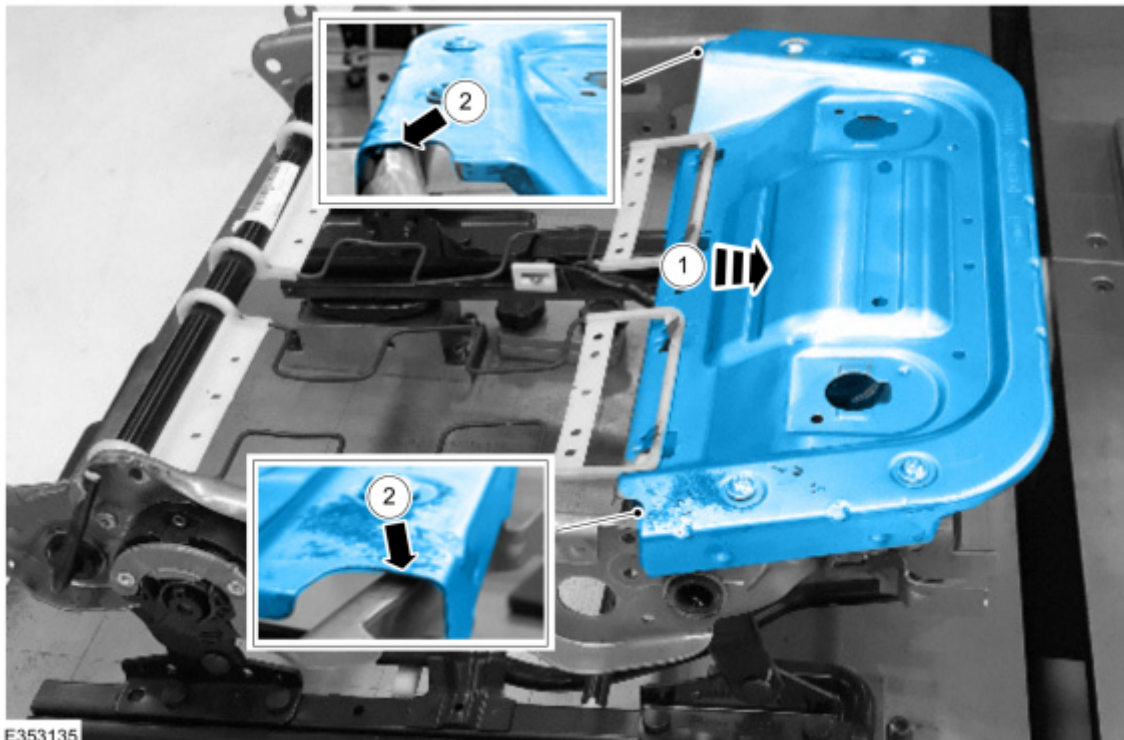

Figure 1
3. Inspect the front seat cushion. (Figure 1)